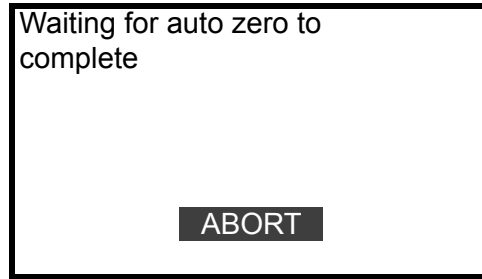

Figure 33 Zero point adjustment in progress message
5. While zero point adjustment is in progress, the screen remains unchanged. (Figure 33) If F3 (ABORT) is pressed here, zero point adjustment is canceled and you will